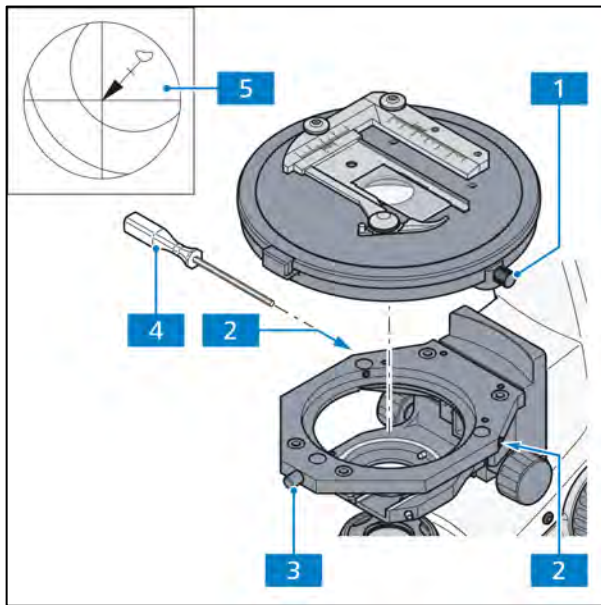

Fig. 3-11 Centering the Pol rotary stage
All stages are factory-precentered, i.e. while rotating the stage the specimen feature set to the center will remain in the center. If the specimen feature moves out of the center of the field of view (Fig. 3-11/5) while the stage is being rotated, the stage should be re-centered by following this procedure:
- Loosen the stage clamping screw (Fig. 3-11/1) and the screw cap on the stage carrier (Fig. 3-11/3).
- Rotate the stage to determine the position of maximum offset of the specimen feature (Fig. 3-11/5, origin of arrow) from the center of the eyepiece reticle.
- Reset the two centering screws on the stage carrier (Fig. 3-11/2) using an Allen wrench (AF 1.5) (Fig. 3-11/4) to move the specimen detail by half an arrow length in the direction of the crossline center. Check whether the specimen detail moves when the stage is rotated again; repeat the procedure, if required.
- When centering is finished, re-tighten the screw cap (Fig. 3-11/3).